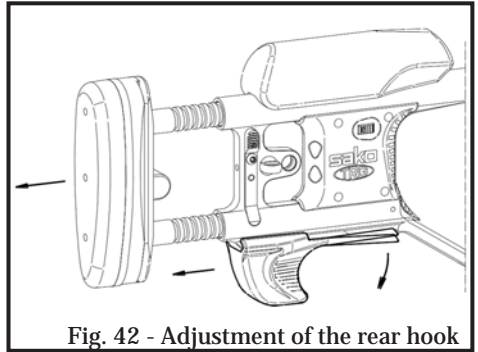

Fig. 42 - Adjustment of the rear hook
1. Extend the length of pull to the rearmost position (Fig. 42).